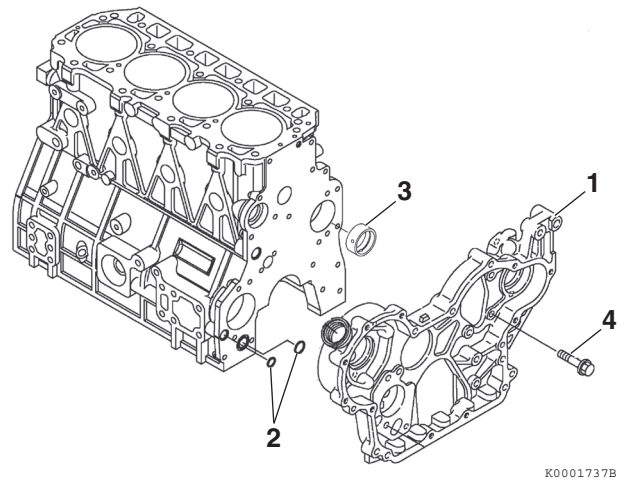

Figure 6-52
- Remove the bolts (**Figure 6-52, (4)**).
- Remove the gear case (**Figure 6-52, (1)**) from the cylinder block. Thoroughly clean all old sealant from the mating surfaces.
- Inspect and measure the camshaft bushing. See *Camshaft* on page 6-7 for the service limit. If damaged or worn beyond service limits, remove the camshaft bushing (**Figure 6-52, (3)**).
- 4TNV98C, 4TNV98CT:** Remove two O-rings (**Figure 6-52, (2)**).